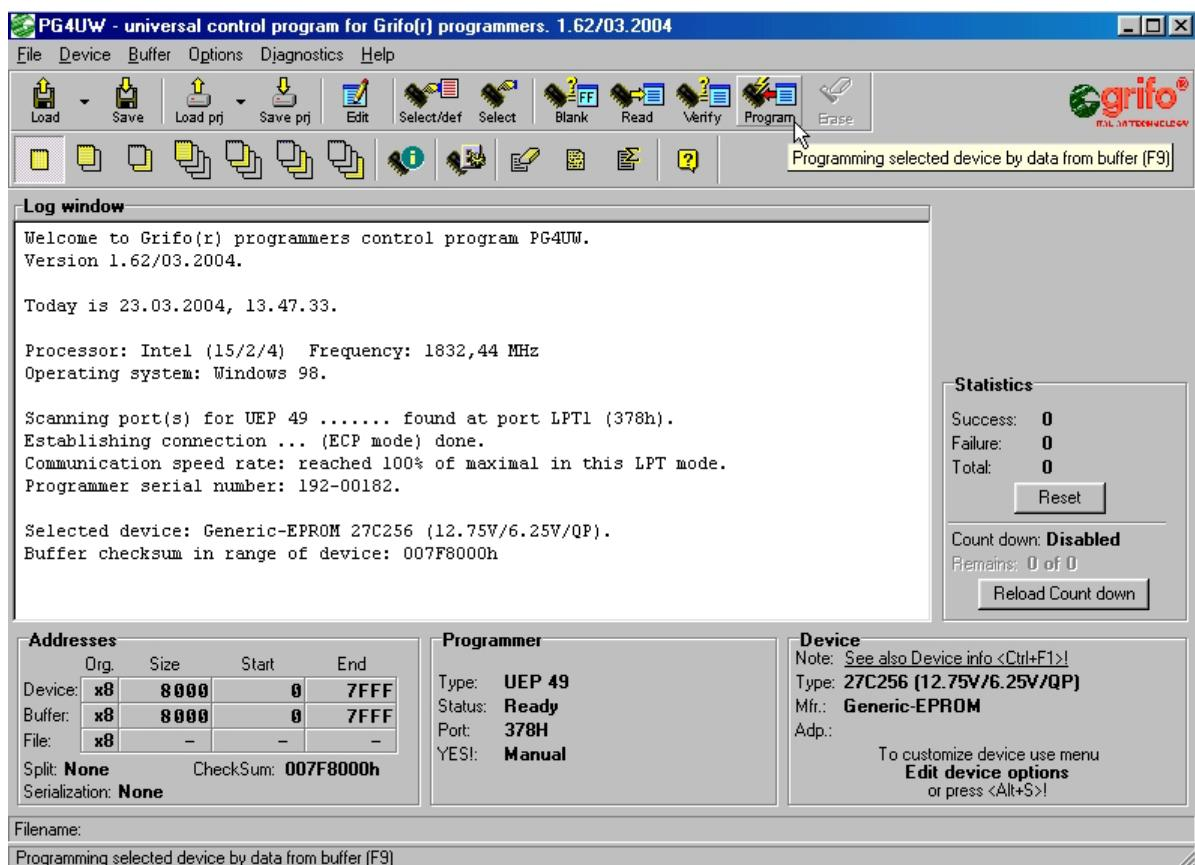

FIGURE 16: PROGRAM DEVICE MEMORY MENU
- Insert the device to be programmed into the ZIF socket of the programmer and program it with the current buffer content through the Device/Program menu or the keyboard shortcut <F9> (please refer to figure16).